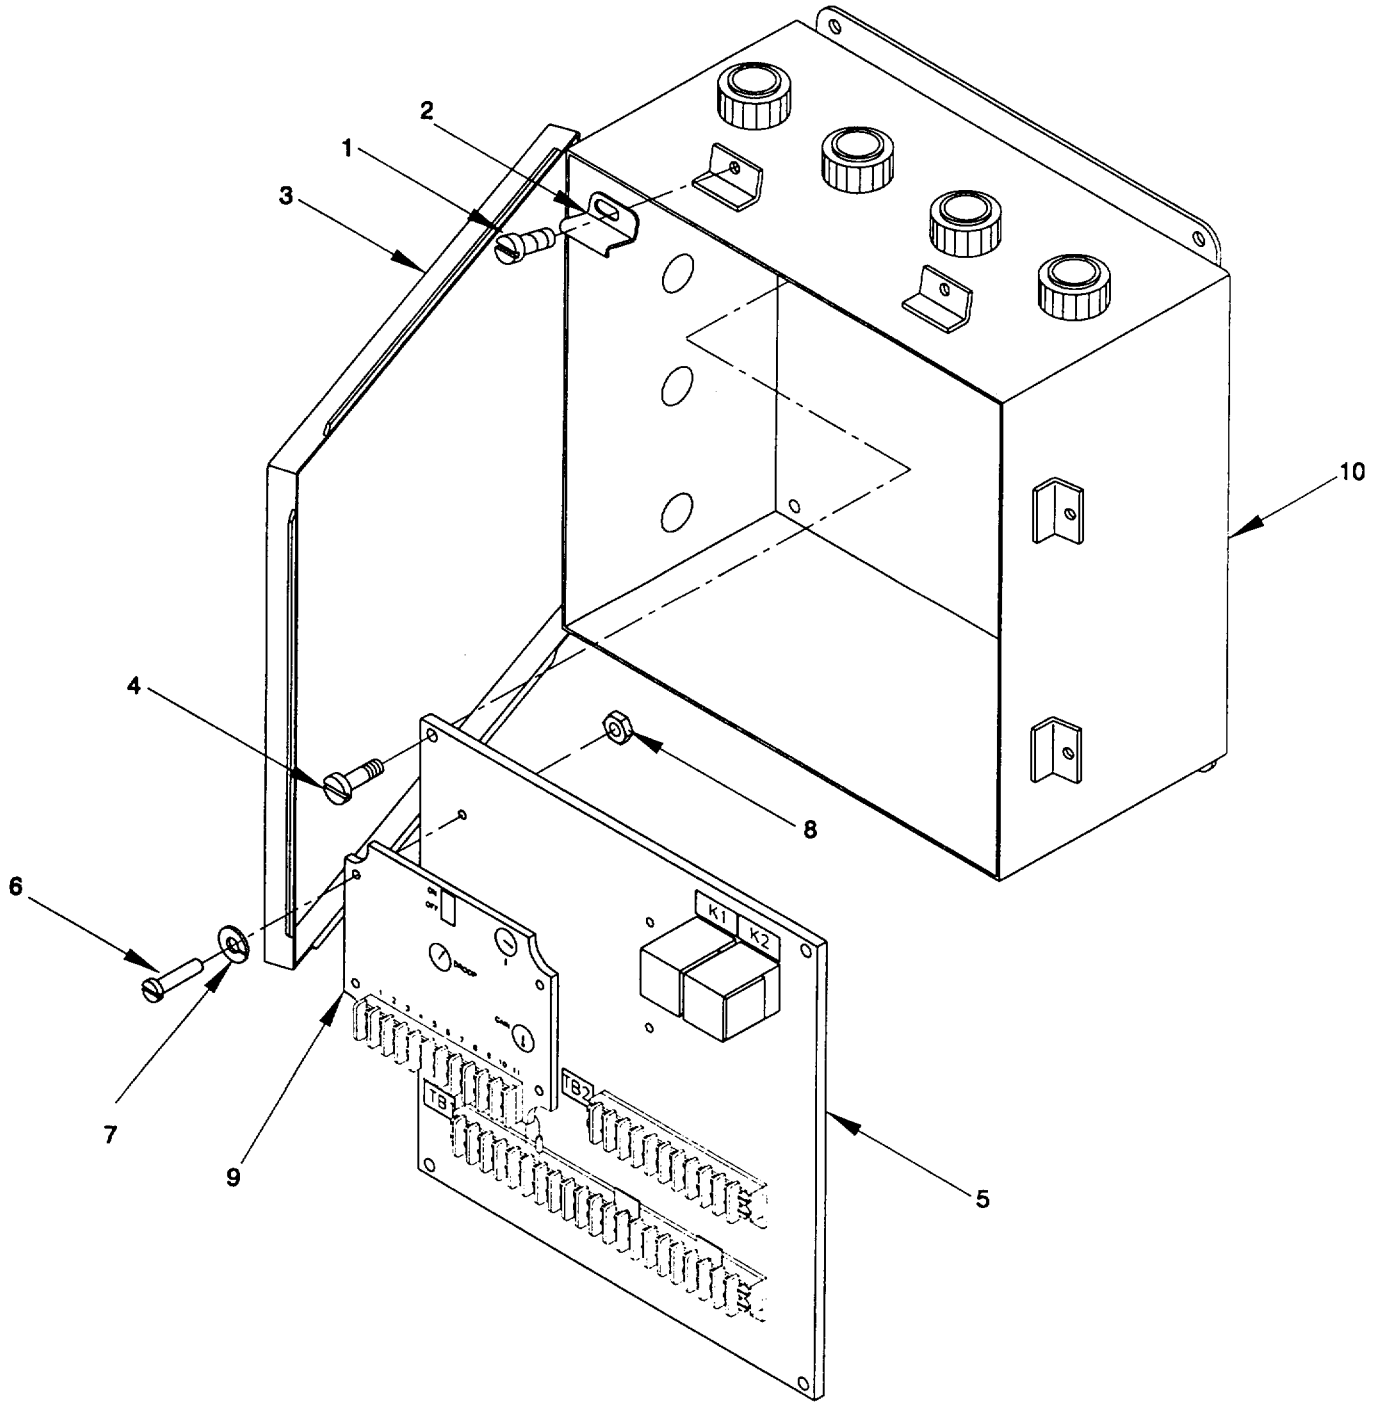

Figure 2-57. Governor Controller, Engine Junction Box "A4", Remove/Install
a. Remove. (figure 2-57)
- (1) Remove six screws (1) and six clamps (2) securing cover (3) to enclosure (10). Swing cover (3) open.
- (2) Disconnect and tag electrical wiring to governor controller (9). Refer to Appendix G.
- (3) Remove four screws (4) securing panel (5) to enclosure (10). Lift panel (5) enough to access the rear of the panel (5).
- (4) Remove four pan head screws (6), four lock washers (7) and four insert nuts (8) securing governor controller (9) to panel (5). Remove governor controller (9).
b. Install. (figure 2-57)
- (1) Apply antiseize compound to screws (1, 4 and 6).
- (2) Install new governor controller (9) on panel (5). Secure governor controller (9) with four pan head screws (6), four lock washers (7) and four insert nuts (8).
- (3) Install panel (5) in enclosure (10). Secure panel (5) with four screws (4).
- (4) Reconnect electrical wiring, as tagged, to governor controller (9). Refer to Appendix G. Use tie wraps to secure any loose wires.
- (5) Adjust governor controller (9). Refer to Direct Support Maintenance.
- (6) Close cover (3) and secure with six clamps (2) and six screws (1).